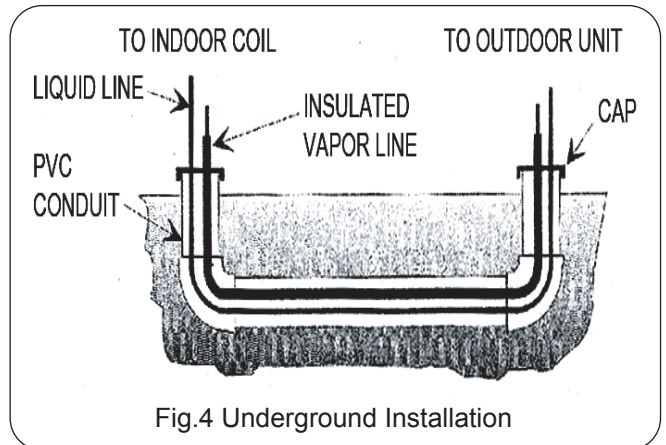

Fig.4 Underground Installation
4. The vapor line and liquid line must be insulated with a minimum of 1/2" foam rubber insulation (Armaflex or an equivalent). Tape and suspend the refrigerant lines as shown. DO NOT allow metal-to-metal contact between tubes. (See Fig. 4)
5. Use PVC piping as a conduit for all underground installations (see Figure 4). Buried lines should be kept as short as possible to minimize the build up of liquid refrigerant in the vapor line during long shutdown periods.